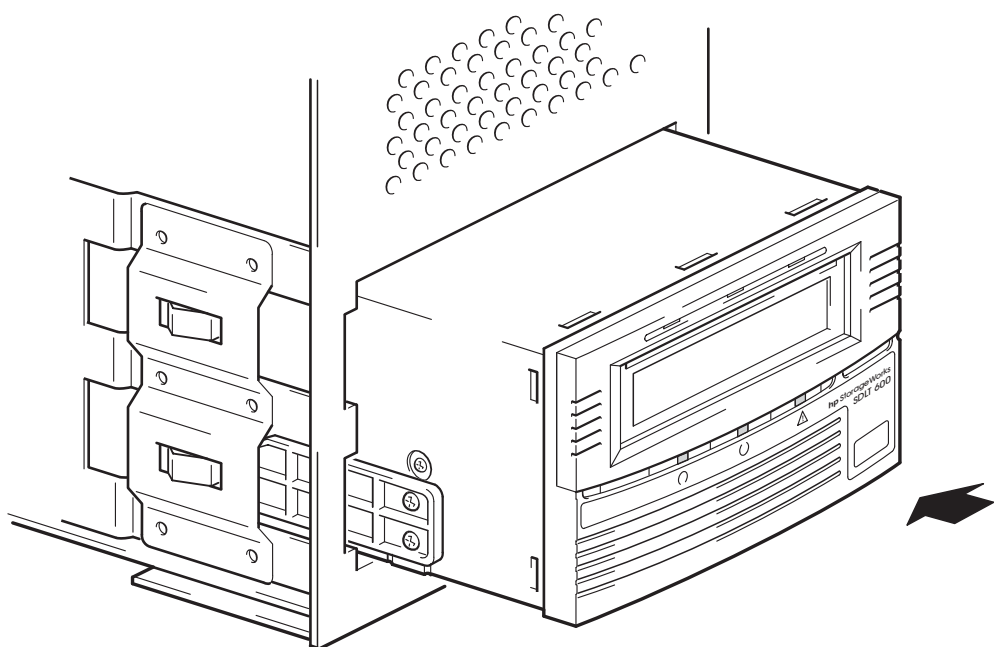

Figure 6: installing the drive
- 1 Slide the tape drive into the open bay, aligning the rails with the slots in the bay, as shown in Figure 6.